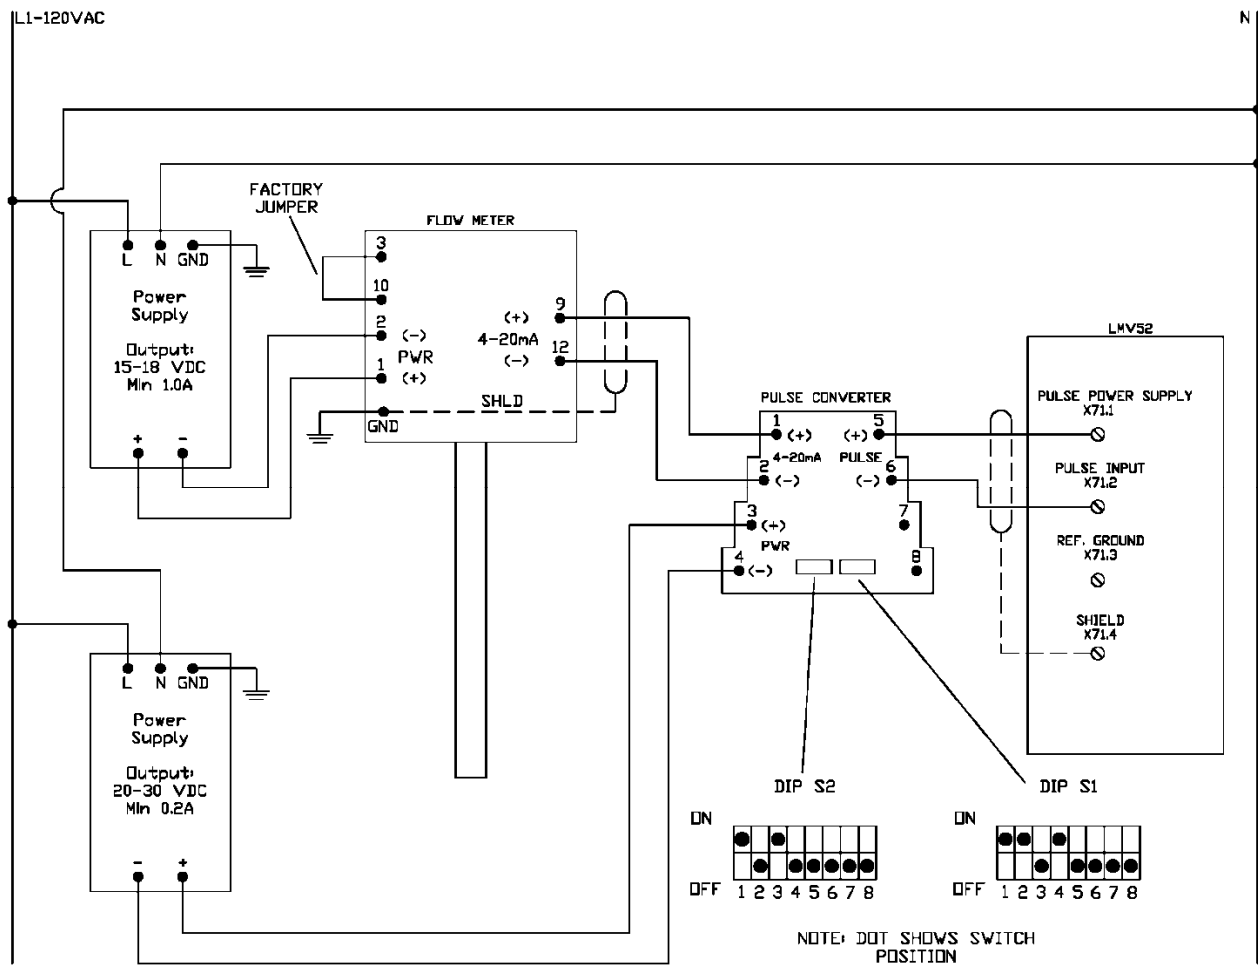

Figure 5: Wiring and Dip Switch Settings for Flow Meter Kit
9. Wire the flow meter, 15 VDC power supply, 24 VDC power supply, LMV52, and milliamp-to-pulse converter as shown in Figure 5. Also, set the dip switches exactly as they are shown in Figure 5.